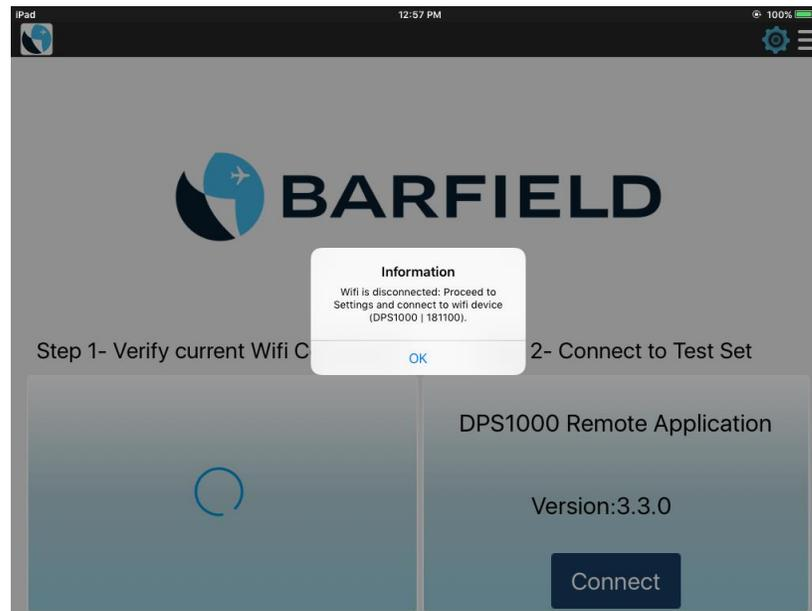

Figure 2.10 Undetected Wi-Fi Connection Screen
- If there is no Wi-Fi connection, the “Connect” window opens with a pop-up screen displaying the information below (Figure 2.10). Press “OK” and proceed to device settings.